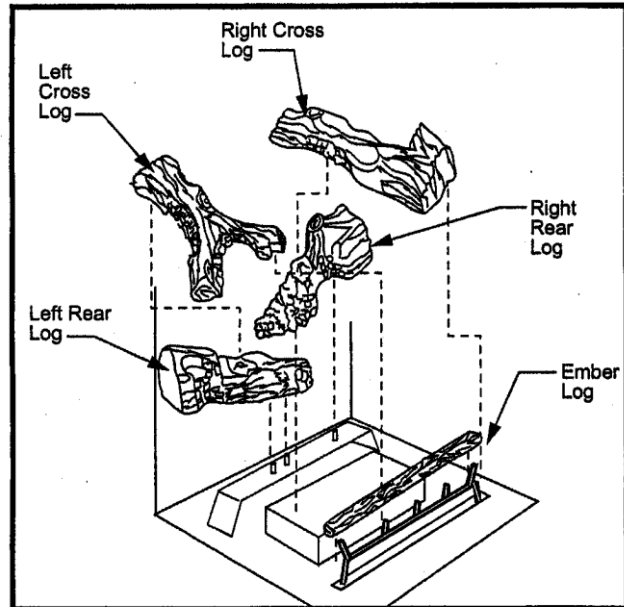

Figure 11
2. Place left rear log on rear support. Ensure that log is firmly positioned and there is no side to side movement. (Refer to Figure 11)